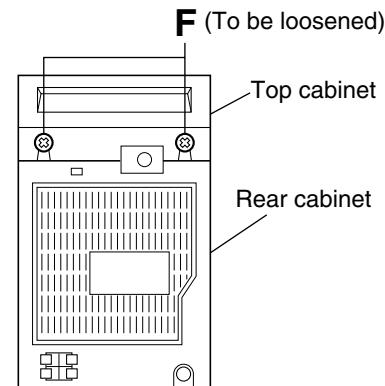

Fig.8
(See Figs. 8 and 9.)
1. From the back side of the main body, loosen the two screws **F** retaining the top cabinet. (See Fig.8.)